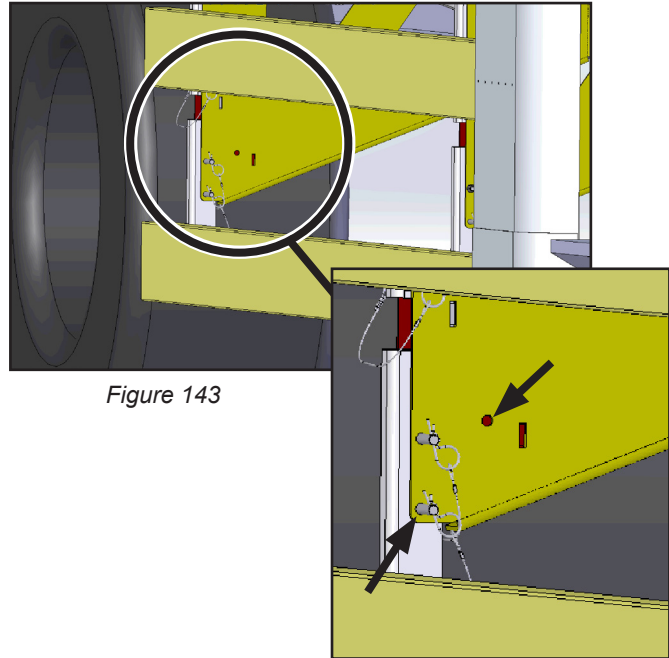

Figure 143
1. To rotate the bottom rail of the lateral protection device up for increased ground clearance at the job site, hold onto the rail assembly and remove the **lower pin** from both sides of the bottom rail (Figure 143).
2. Rotate the bottom rail assembly up until the open holes on the LPD rail and the LPD gusset align (Figure 143).